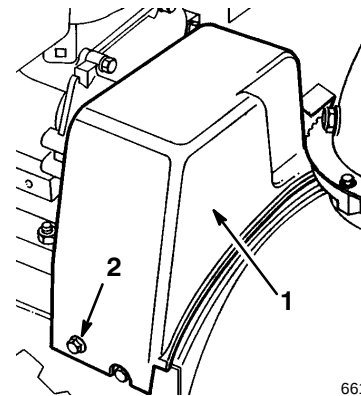

Figure 21
3. Remove the two screws that hold the belt cover in place and set the cover aside (Fig. 21).
When the auger/impeller drive belt (Fig. 21) becomes worn, stretched, oil-soaked, or otherwise damaged, replace the belt. You can obtain a new belt from your Authorized Service Dealer.
2. Remove the two screws that hold the belt cover in place and set the cover aside (Fig. 21).